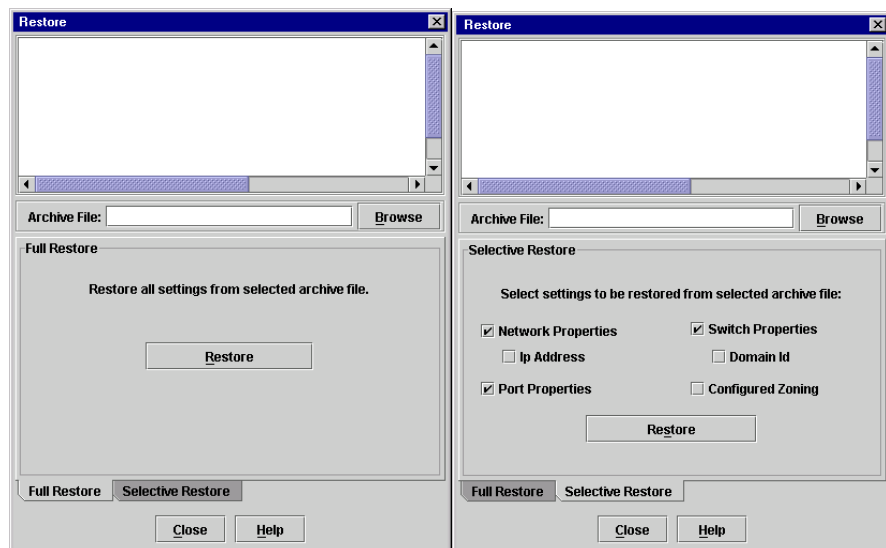

Figure 2-39. Restore Windows – Full and Selective
2. Open the Switch menu in the Faceplate window and select **Restore** to display the Restore window shown in Figure 2-39. The Restore window offers a **Full Restore** and a **Selective Restore** tab.